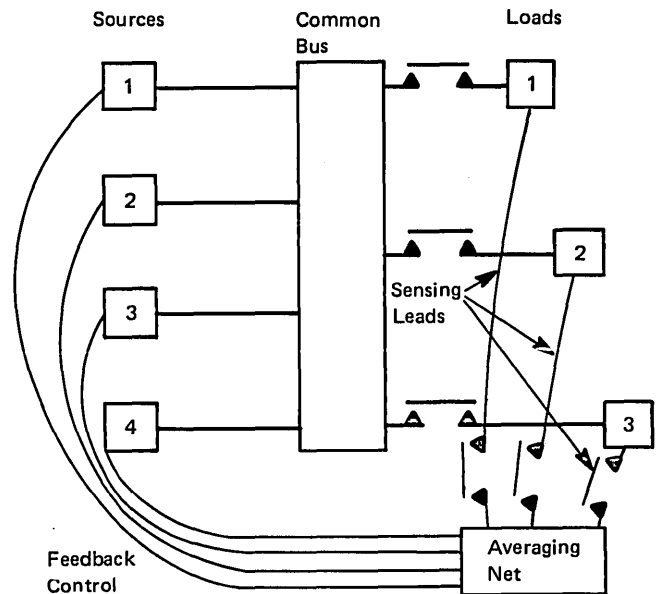

Figure A-4. Remote Sensing and Averaging of All Loads
- Remote sensing and averaging of all loads (Figure A-4)